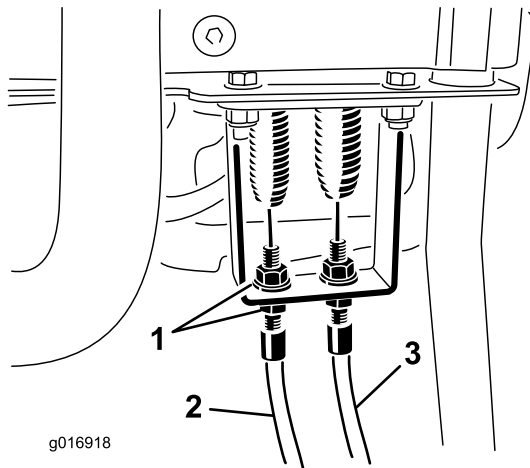
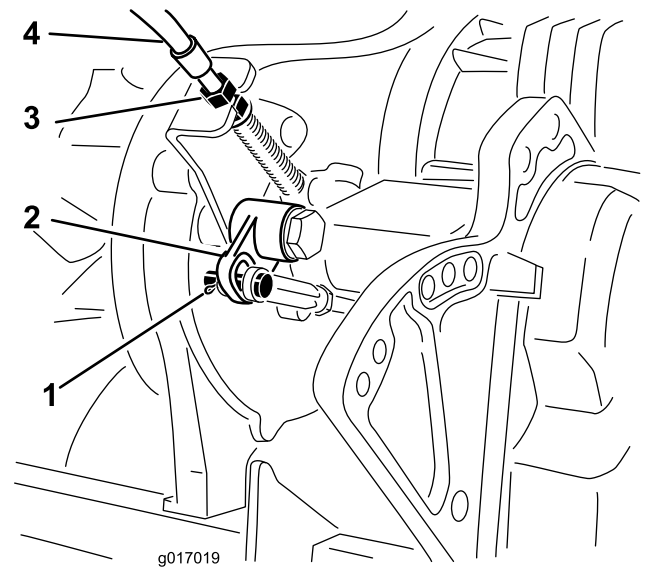

Figure 45
Figure 46
2. Check to see if there is any slack in the traction control cable at the extension spring (Figure 45). If slack exists, adjust the jam nuts at the bulkhead (Figure 46) to remove the slack from the cable without extending the spring.
4. Remove the cotter pin and clevis pin securing the bell crank rod clevis to the bell crank lever. Disconnect the clevis from the bell crank lever (Figure 46).
7. At the transmission bulk head (Figure 46), adjust the cable jam nuts to decrease the distance to the bell crank to accommodate the previous change.
8. Adjusting the cable at the control panel bulk head, adjust the cable jam nuts to remove any slack in the cable without extending the spring (Figure 45).
3. At the control handle bulkhead, loosen the reel control cable until there is slack in the cable (Figure 45).